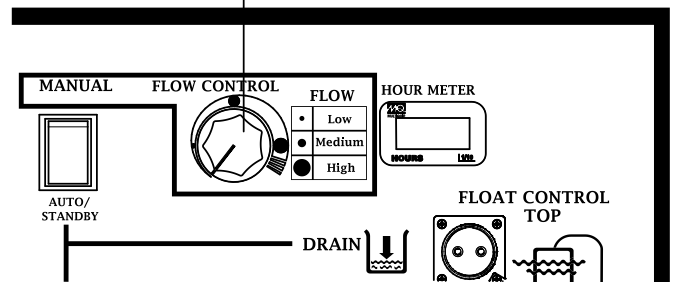

Figure 11. Flow Control Switch
- After the engine has started, turn the flow control switch to the desired flow volume (Figure 11).